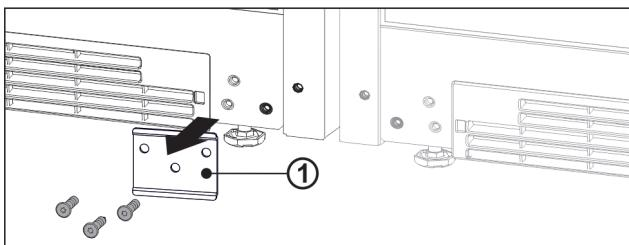

Fig. 11
- ▶ If the metal plate Fig. 11 (1) is installed, unscrew the metal plate.